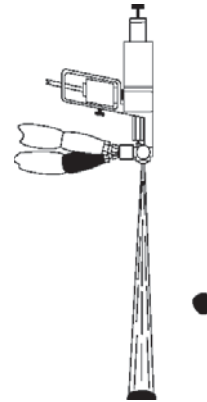

FIG. 11 Point of Valving
- c. Point of valving is reached when chemical stream mists as shown in FIG. 11.